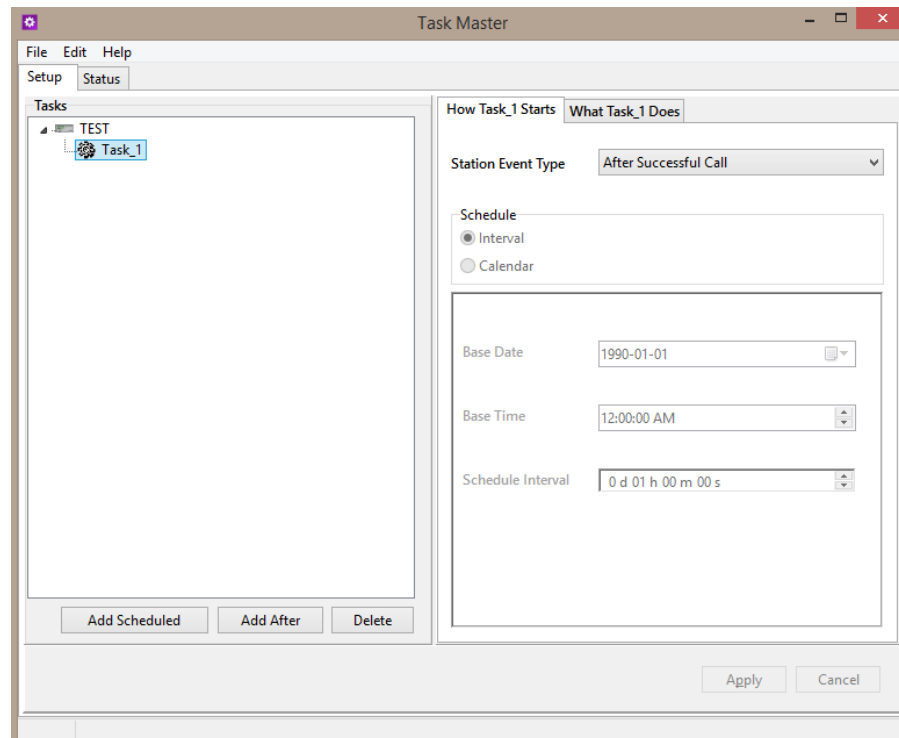

Figure 4.24: Creating a task using the LoggerNet 'Task Master' utility.
- b. Select the 'After Successful Call' option (**Figure 4.24**).